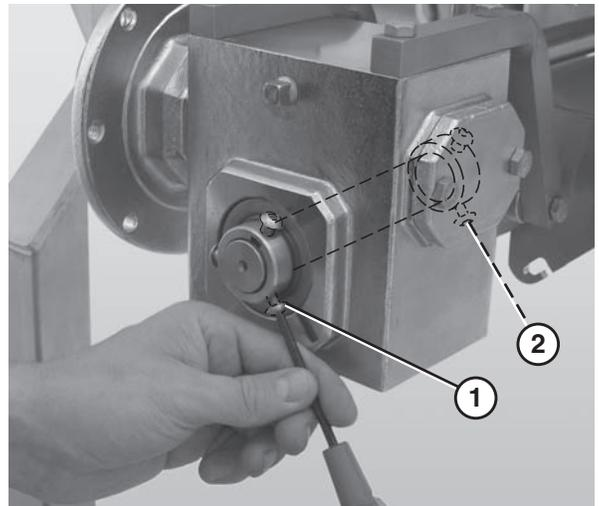

Figure 64
9. Use a 4 mm hex wrench to loosen the outside button head screws (**Figure 64, item 1**) and the inside button head screws (**Figure 64, item 2**) that connect the gearmotor to the drive spindle.